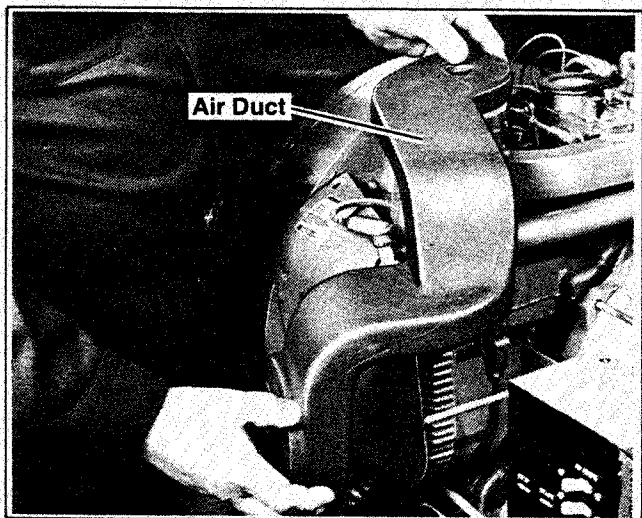

Figure 8-2. Removing Air Duct
3. The air duct is secured by one screw at the carburetor air intake and two nuts w/washers at the controller mounting bracket. Remove the fasteners at these points to remove air duct. Figure 8-2. Remove gasket from carburetor air intake.